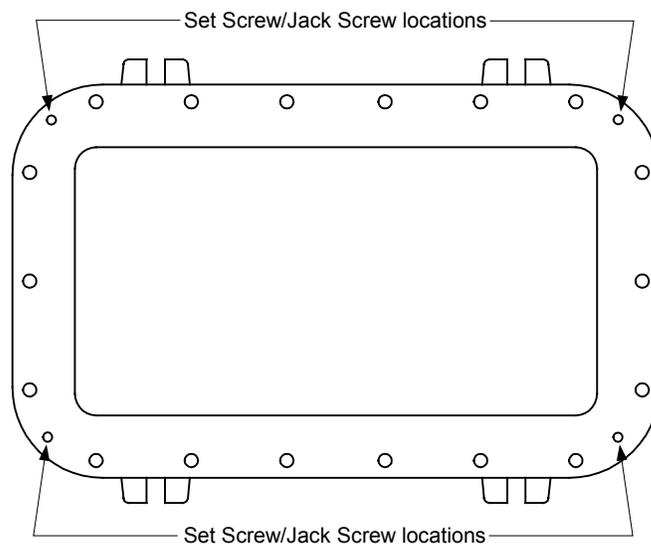

Figure 1. FURNACE HOUSING
6. Insert the four jack screws into the designated holes in the Furnace Housing cover (see Figure 1).